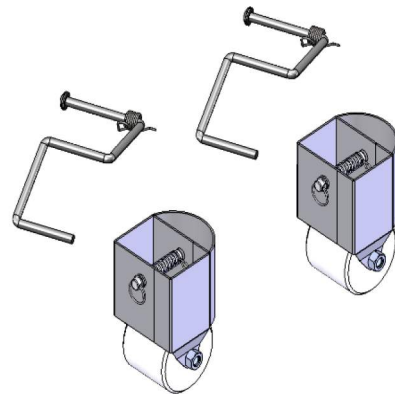

Figure 2 – Mobility Parts
- (2) Handles with hardware (Fig. 2)